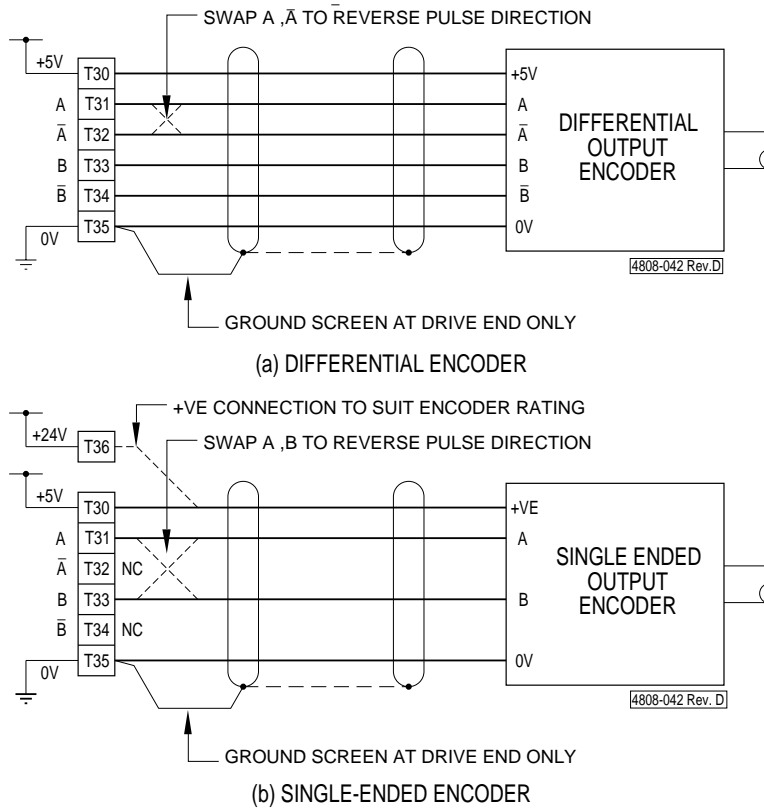

Figure 5.3: Shaft Encoder Connection Details
- The Elite Series is designed for operation from a three phase earthed neutral supply. Input fuses are required. Details of the recommended fuse size are given in Figure 5.3. In all cases, observe all site, local and national wiring and safety regulations.